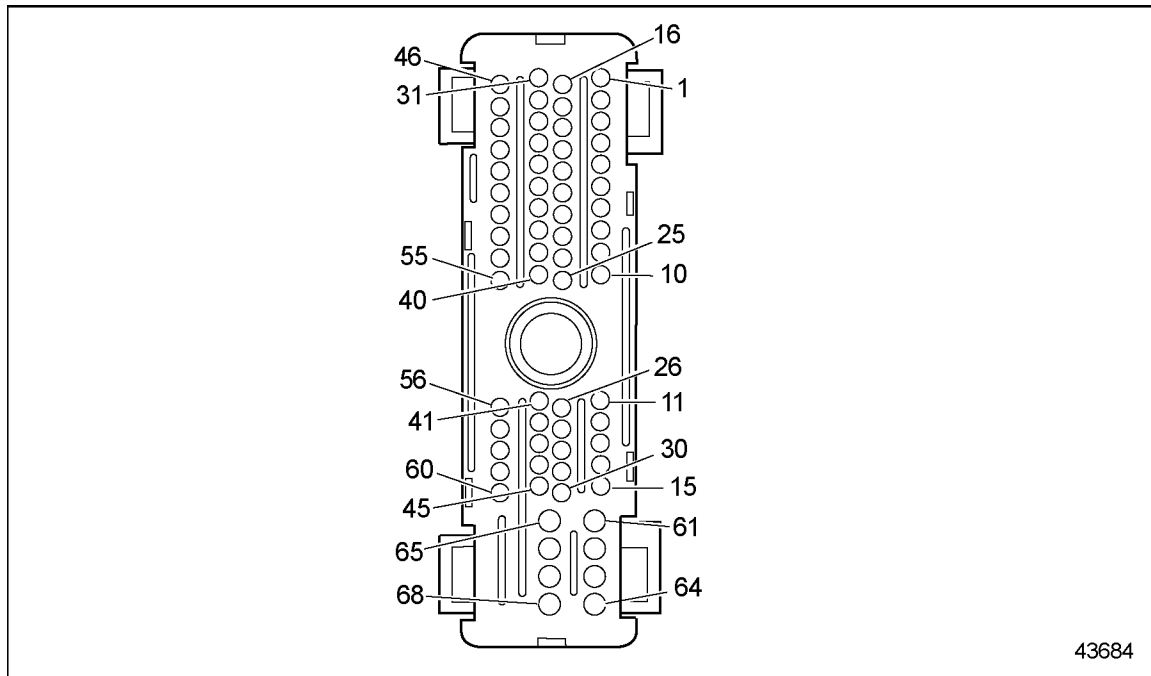

Figure 39-4 ECM/ECU Engine Harness/Vehicle Harness Connector
3. Measure resistance between sockets E-15 and E-12 on the Engine Harness connector. See Figure 39-4.
- [a] If either resistance measurement is less than or equal to 100 Ω , the engine +5 volt line (E-12) is shorted to the return line (E-15) or battery ground. See Figure 39-4. Repair the short and refer to section 39.2.7.1.
3. Measure resistance between socket E-31 on the Engine Harness connector and socket V-15 of the Vehicle Interface Harness connector, and between E-31 and V-61 and V-65. See Figure 39-4.
4. Turn vehicle ignition OFF and remove jumper wire. Measure resistance between sockets E-31 and E-15 on the Engine Harness connector. See Figure 39-4.
5. Measure resistance between socket E-31 and a good ground. Also measure resistance between E-31 and E-15. See Figure 39-4.